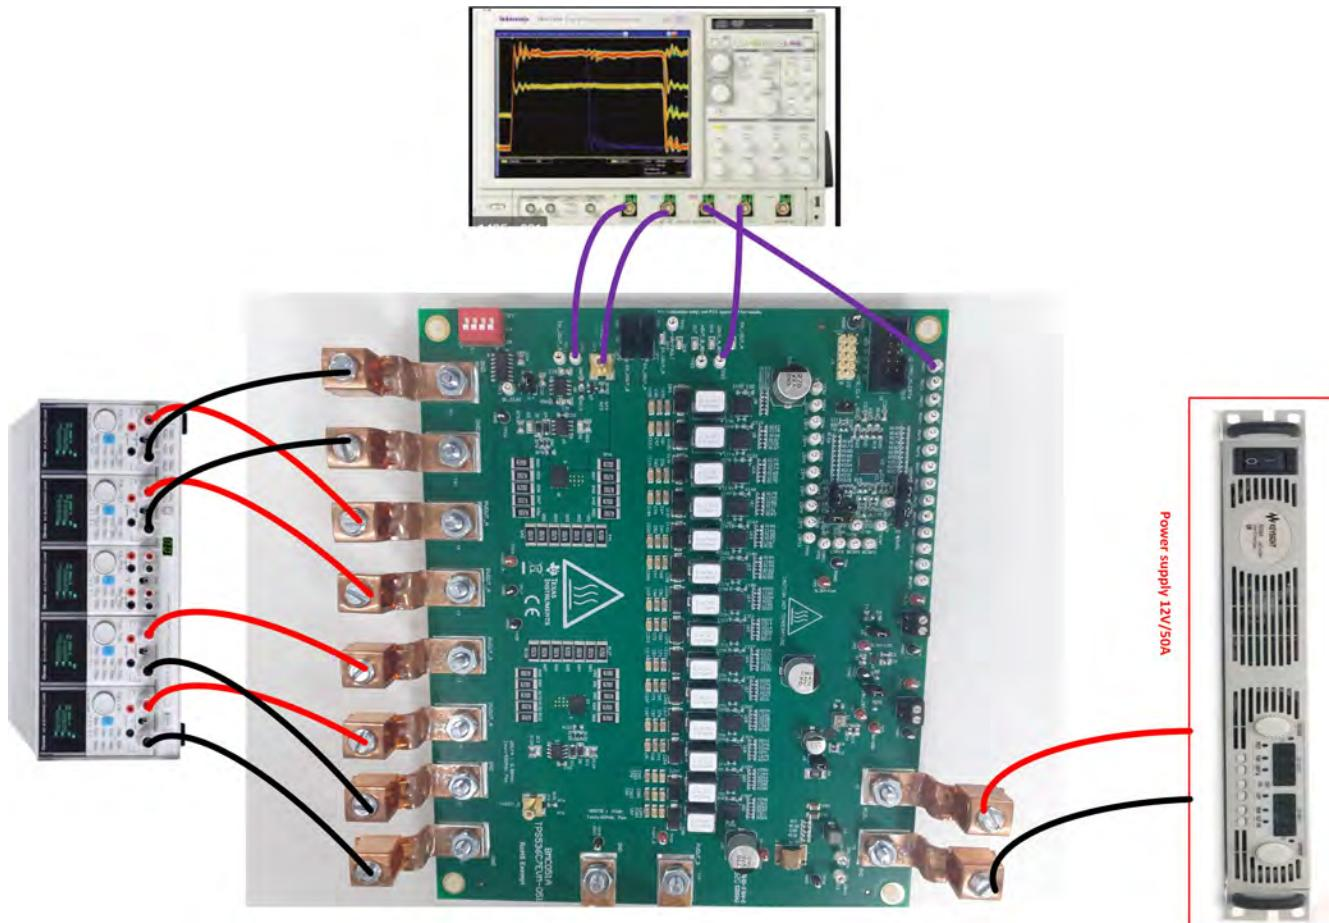

**Figure 4-4. On Board Load transient**
EVM board has option of load transient test. There are 4 parallel loads connected for RAILA as shown in Figure 4-4. Each load can be turned-ON/OFF independently with SWITCH S3. Placed Jumper J14 in order to provide drive signal from onboard 555 timer (~1.2 kHz, 8% Duty cycle) or inject drive signal in TP13 from signal generator. The resistor (0.2ohm) package is 2502 and maximum power dissipation 2W. so External signal duty cycle should not exceed 20% duty cycle as thermal rating. Each load resistance(R1) is 11.7mohm and Switch RDS(ON) is 2mohm. Total resistance per load bank is 13.7mohm. The total resistance value with all 4 load bank is ~3.8mohm with including board parasitics. so if RAILA output voltage is 0.88V, load step is 230A(0.88/3.8m)